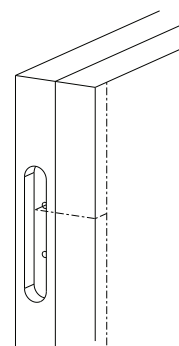

Fig. 7
10. Install the male spring clips with the tang in the up position (**Fig. 7**)
11. Install the female spring clips with the tang in the down position in the machined pocket using the pre-drilled holes (**Fig. 7**)